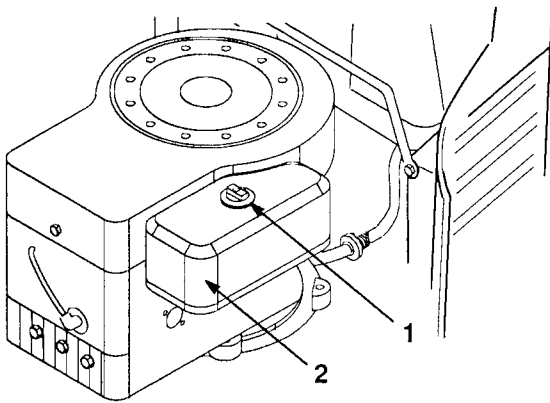

Figure 27
3. Clean around the air cleaner to prevent dirt from getting into the engine and causing damage. Unscrew the knob and remove the air cleaner cover (Fig. 27).
2. Install the air cleaner cover and knob (Fig. 27). Tighten the knob snugly.